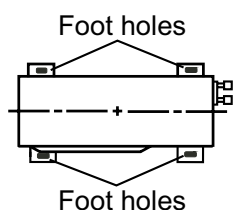

Fig.20
- (1) Place the outdoor unit on the support.
- (2) Fix the foot holes of outdoor unit with bolts.(As show in Fig.20)